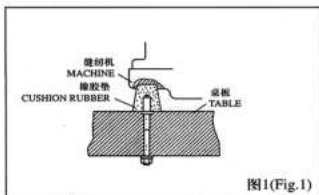

图1(Fig.1)
1、依本机器所付桌板裁制图及零件组合图所列配件，依序安装防震机座及线架（图1&2）
1、With referenceto diagrams for table cutting and mounting partlist, install vibration-reducing base and thread stand in sequence (Fig.1&2)